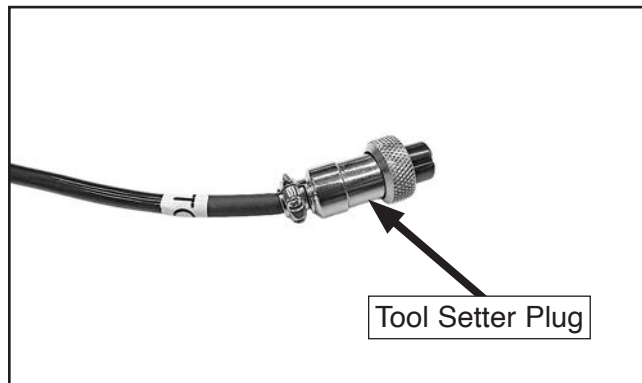
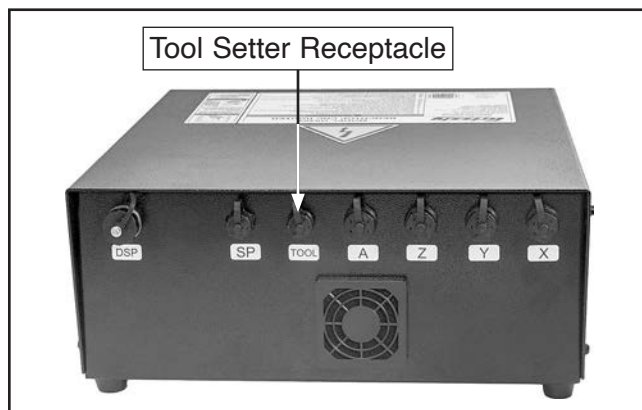

Figure 18. Location of tool setter plug.
Figure 19. Location of tool setter receptacle on control box.
4. Connect tool setter plug (see **Figure 18**) to matching receptacle on rear of control box (see **Figure 19**).